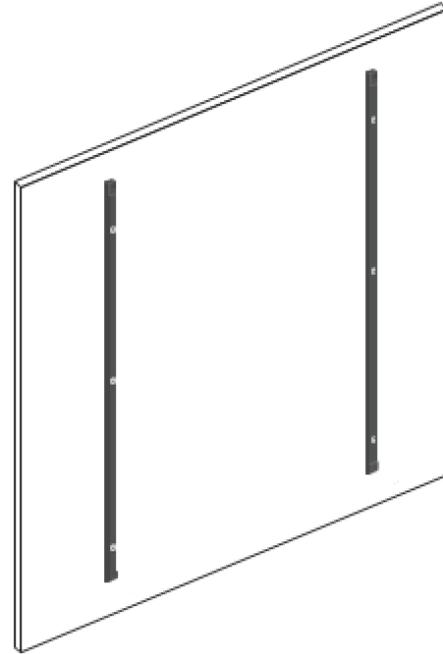

Figure 12: Pocket Mounts on Wall
2. Align the first pocket mount to a wall stud on your wall and fasten the pocket mount at three points (see Figure 12).